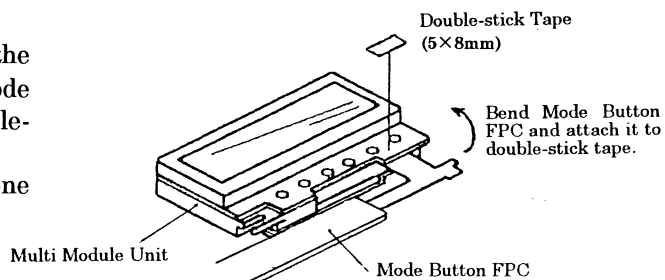

Fig.68
- 4) Stick double-stick tape (5×8 mm) on the Multi Module Unit. Then fold the Mode Button FPC and attach it to the double-stick tape. (See Fig. 68)